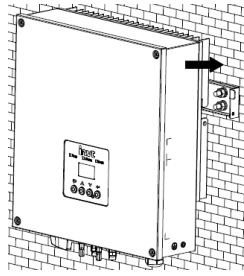

Figure 7 Installation of inverter
- (5) hang the inverter on the mounting bracket to ensure it is firmly installed. As shown in Figure 7.;